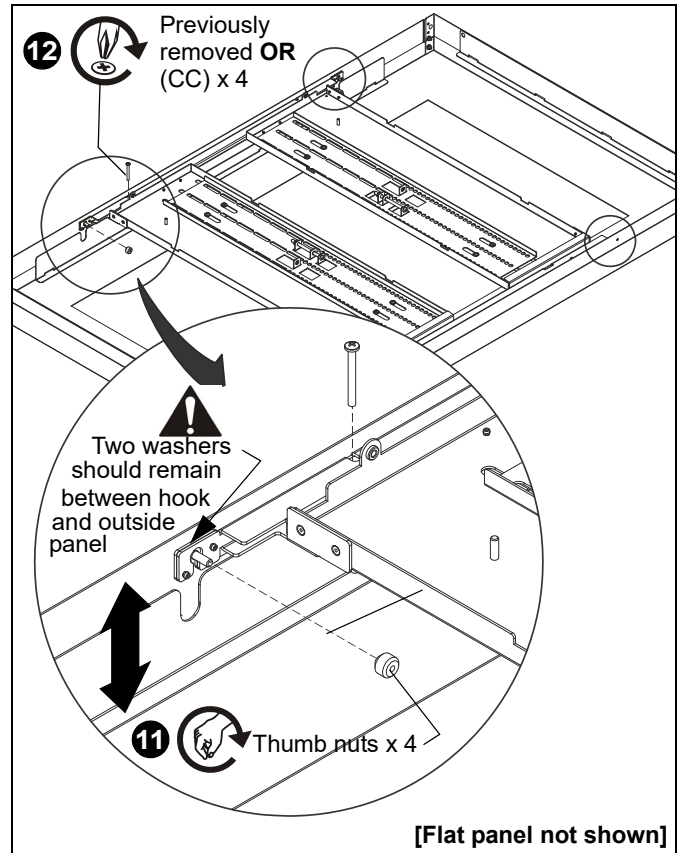

Figure 12
**NOTE:** The outer cover depth may be adjusted between 3" - 5" to make room for a variety of different flat panel thicknesses. (See Figure 12)
- The 4 Phillips screws removed in Step 1 can be replaced with four 10-24 x 3-1/2" Phillips screws (CC) for larger depth adjustments.
11. Tighten thumb nuts over threaded studs in four locations on the hinged frame. (See Figure 12)
12. Replace and fasten four Phillips screws which were removed in Step 1, **OR** replace the removed screws with four 10-24 x 3-1/2" Phillips head screws (CC) to allow for a larger depth adjustment of the outer frame. (See Figure 12)